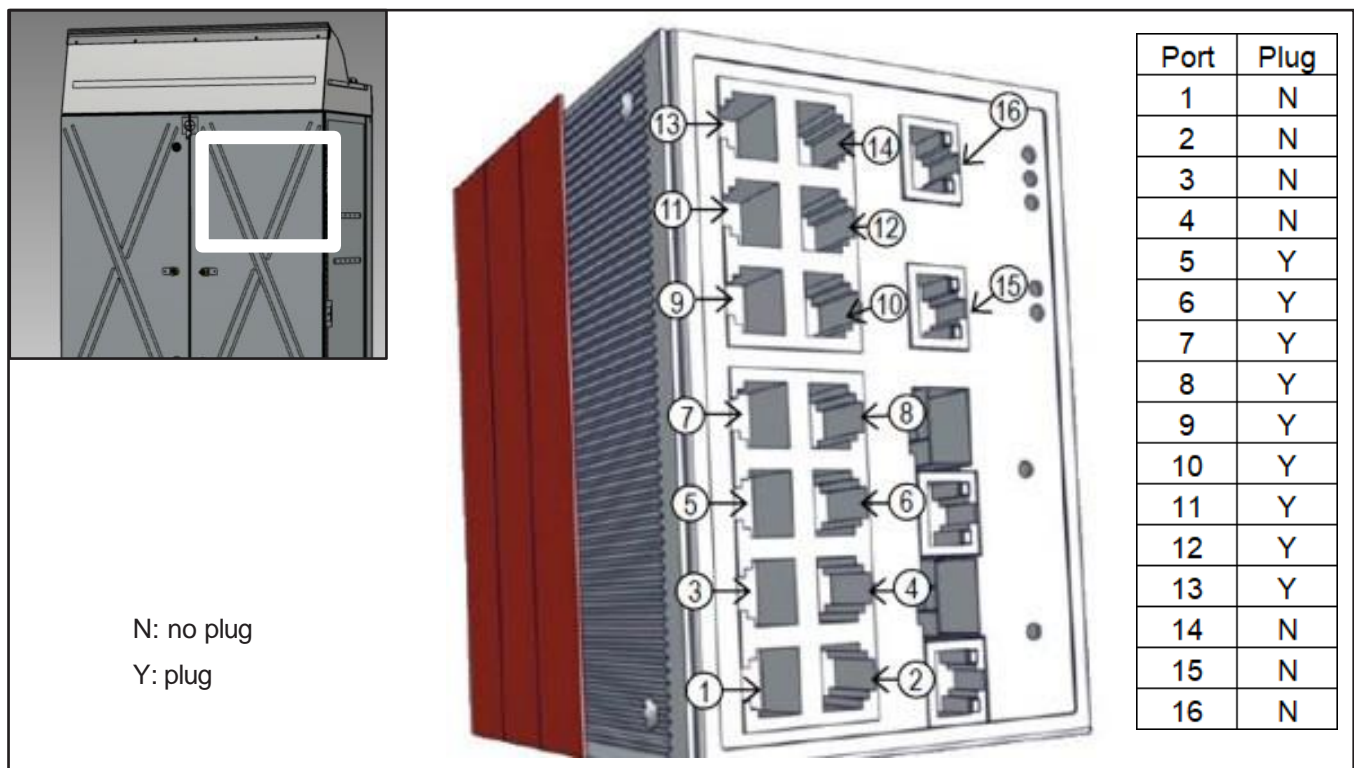

Figure 1 - Position of Cavity Plugs for the Moxa Ethernet Switch
- 1.4. In the storage box locate the Moxa Ethernet switch and install 9 new cavity plugs N109970 as shown in the Figure 1. Note: if there is already cavity plugs, remove and install new ones.